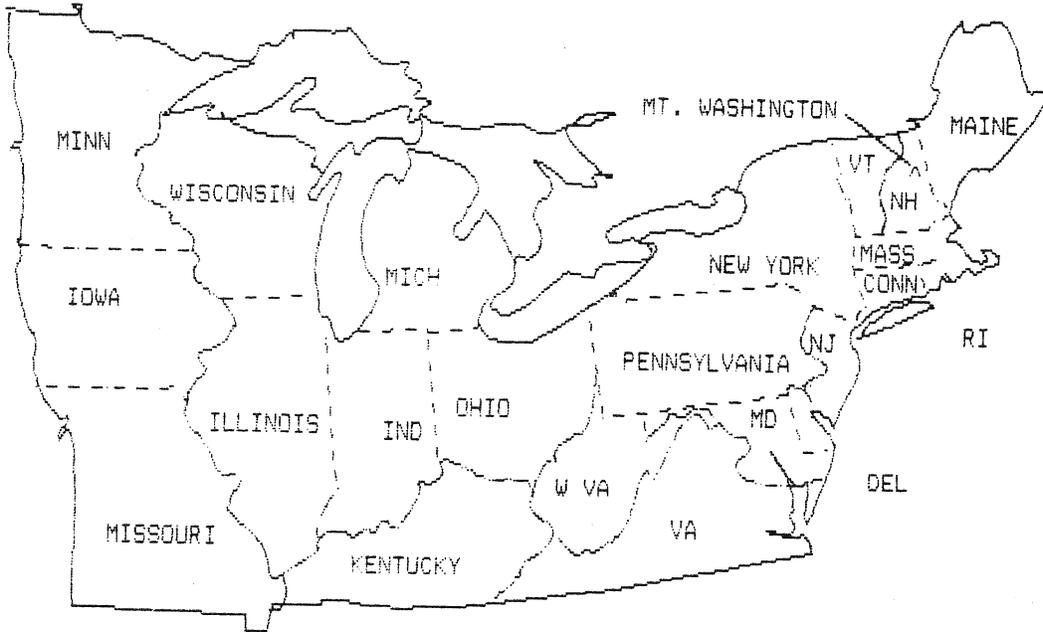

Figure 4-5: Map of Northeastern United States
9. After a few seconds, a map of the Northeastern United States will appear on your screen (see Figure 4-5). This completes the Installation Verification Process. Tool Kit PASCAL has been successfully installed.